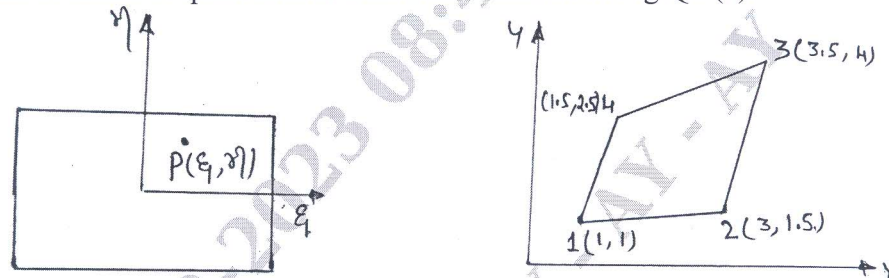

Fig.Q.5(c)
- c. Determine the Cartesian co-ordinates of the point $P(\xi = 0.8, \eta = 0.9)$ given the Cartesian co-ordinates of nodes of quadrilateral elements as shown in Fig.Q.5(c). (08 Marks)